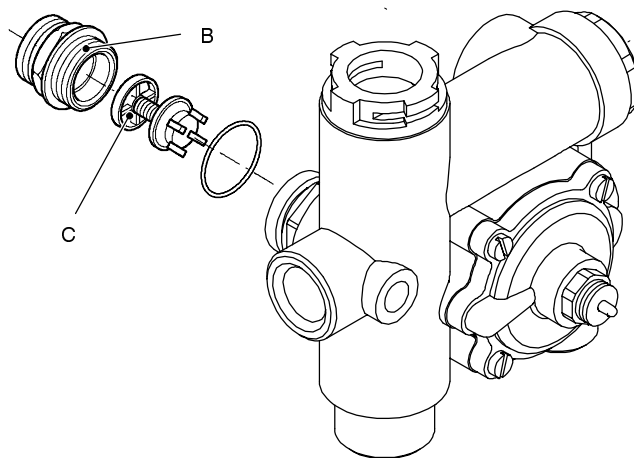

Fig. 67
- 4 Unscrew the connector B and remove the by-pass valve C (Fig. 67).
- 5 Reassemble the by-pass valve as illustrated in Fig. 67 reversing the order of removal.